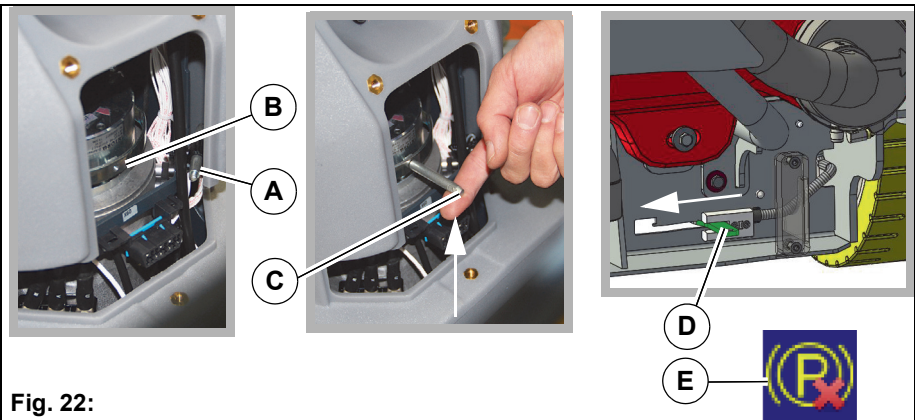

Fig. 22:
2. Remove the pin **Fig. 22-A** from the holder and screw it into the ring **Fig. 22-B**.
3. In order to unlock the parking brake, pull the pin upwards slightly **Fig. 22-C** and simultaneously push the machine.
If the machine has an X-AC drive, the rear wheel brake must also be unlocked. To do so, push the lever at the rear on the right side of the machine **Fig. 22-D** from right to left until it engages.
Indication appears on the multifunction display when the rear wheel brake is taken out of service **Fig. 22-E**. The machine can no longer be driven!